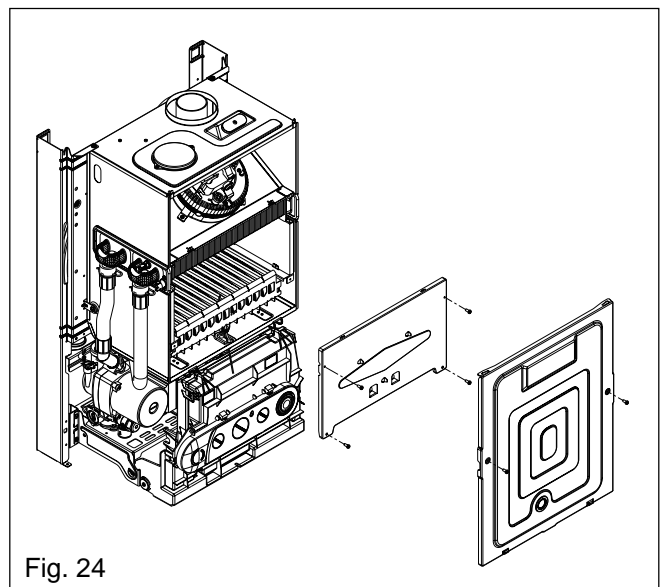

Fig. 24
6.17 BURNER, INJECTORS AND SPARK/SENSE ELECTRODE (fig. 24 & 25)
6.18 FLUE FAN (fig. 24 & 28)
6.19 HEAT EXCHANGER fig. 24 & 26